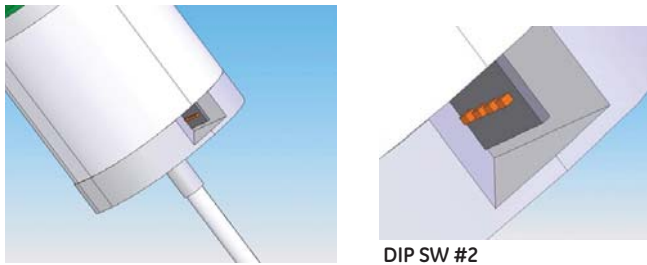

Figure 32 - Linear Transmitter Dip Switch Location
Step 4: The new transmitter Module can be either 20 mA Down or 20mA Up depending on the position of Dip Switch #2 (See Fig. 32)